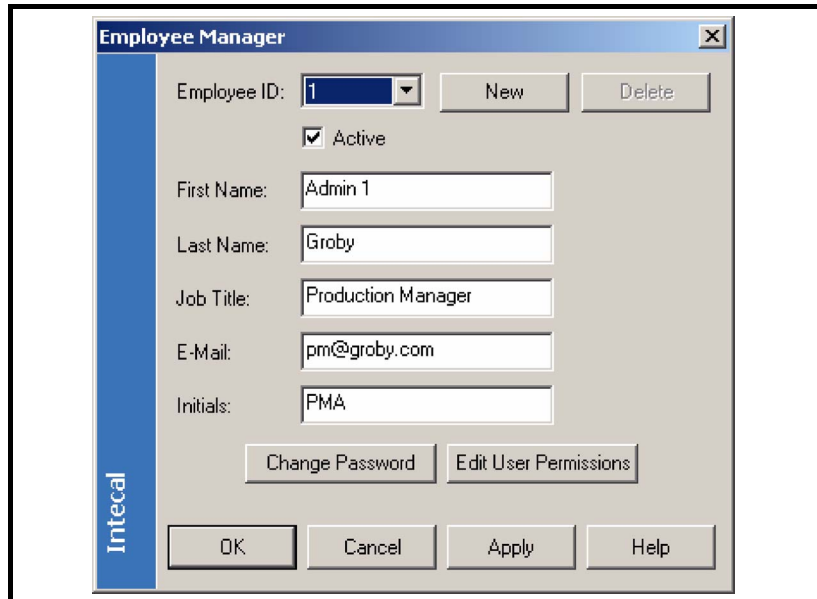

Figure 2-2: *Employee Manager* window
Use the *Employee Manager* (Figure 2-2) to set up and maintain a list of your *Employees*. You can then use Intecal to show the *Employees* related to each task and calibration.
2. When the *Employee Manager* window opens (Figure 2-2), click on the *New* button
4. In the *Employee Manager* window (Figure 2-2), click on the *Active* check-box. This sets the status (active or not active).
2. When the *Employee Manager* window opens (Figure 2-2), select the applicable *Employee ID* from the drop-down list.